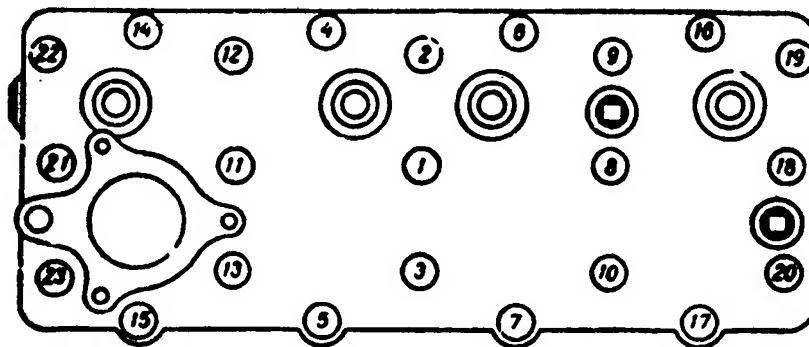

Fig. 4. Cylinder Head Stud Tightening Sequence
2. Tighten the cylinder head stud nuts in the sequence shown in Fig. 4. The nuts should be tightened on a cold engine.